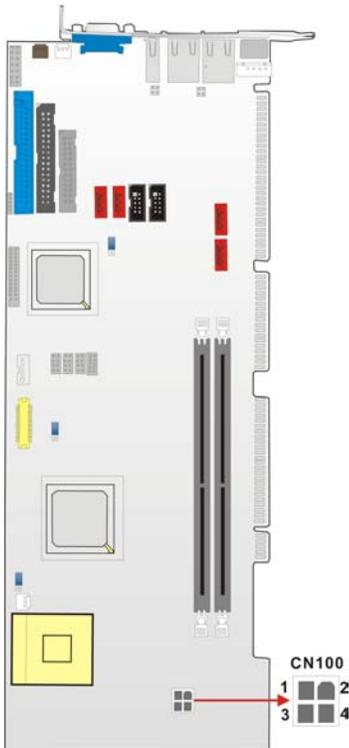

Figure 3-18: ATX Connector Location
- CN Location:** See Figure 3-18